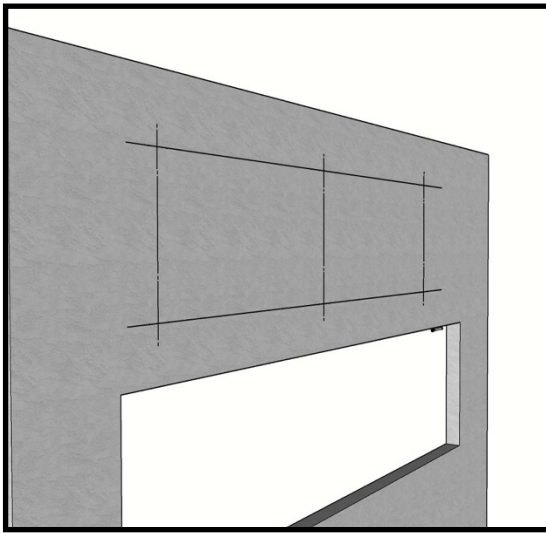

Fig 1
2. Refer to project specific drawing package for intended method of installation. – Begin installation by laying out wall attachment brackets (#1 & #8) based on the bracket layout shown in the drawings (Fig 1). Use supplied brackets for specific hole patterns.